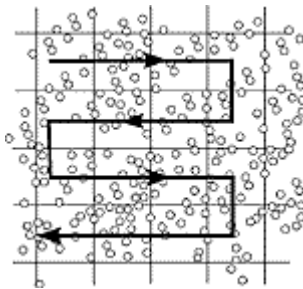

Figure 1.
- Always start in the upper-left corner and proceed in the direction that is shown on figure 1.